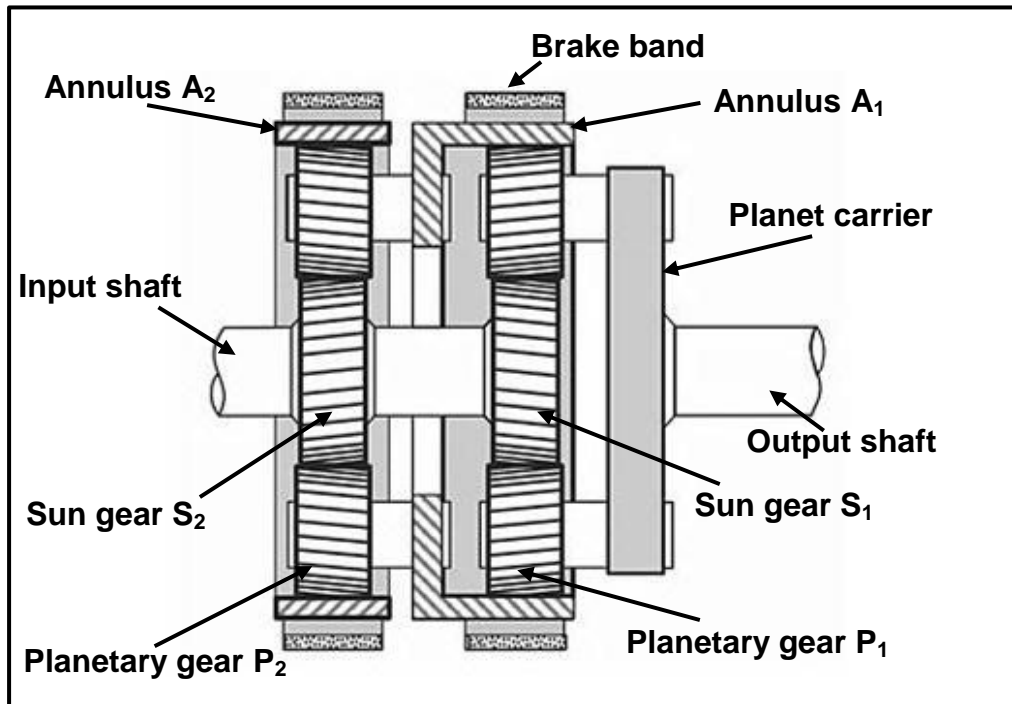

FIGURE 9.5
9.5 FIGURE 9.5 below shows a double epicyclic gear train/system. Answer the questions that follow.